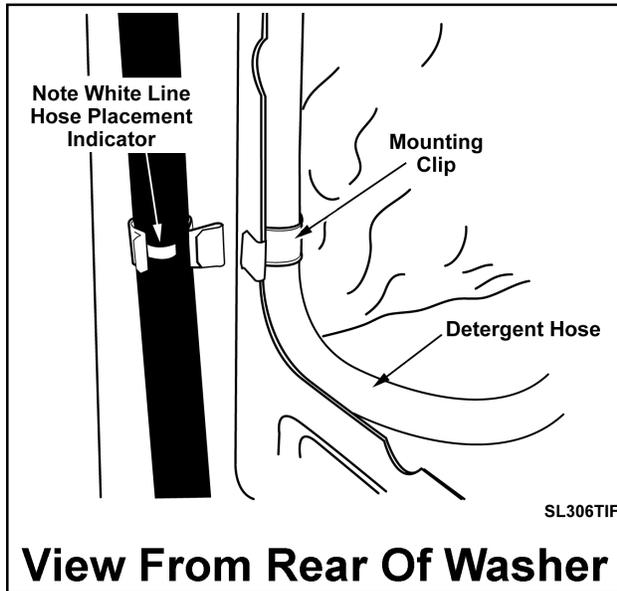

Figure 8-8
3. Locate the rear mounting clip on the detergent hose in the access panel opening and slide the clip off the cabinet flange. (See Figure 8-8)